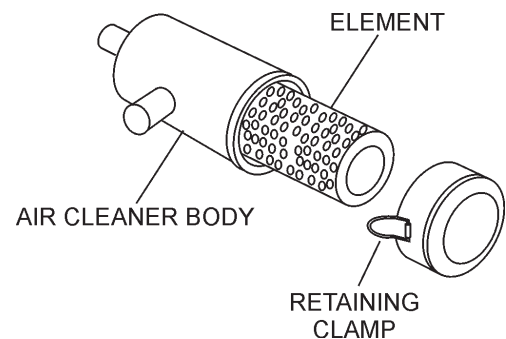

Figure 31. Air Cleaner
1. Release the air cleaner retaining clamps (Figure 31) and remove the air cleaner element.
4. Tap the paper filter element (Figure 31) several times on a hard surface to remove dirt, or blow compressed air [not exceeding 99 psi (686 kPa, 2.1 kgf/cm²)] through the filter element from from the inside while turning the element. **NEVER** brush off dirt. Brushing will force dirt into the fibers.